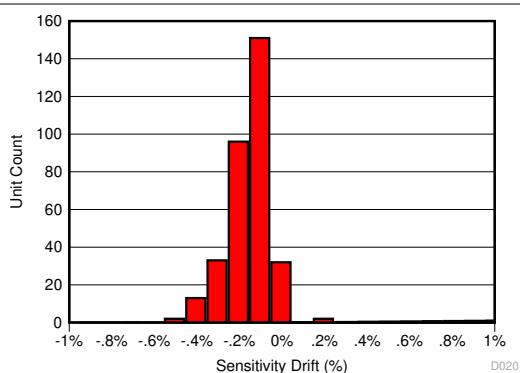
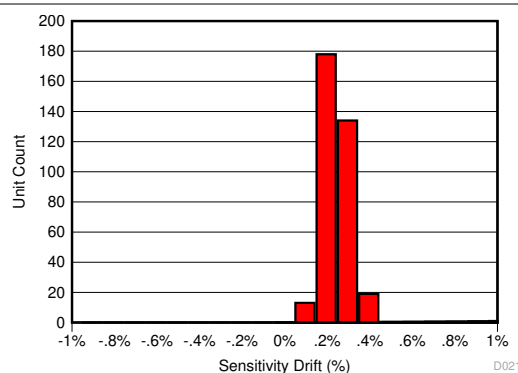

图 9-1. Sensitivity Error After 130°C, 85% RH HAST
图 9-2. Sensitivity Error Drift After AEC-Q100 High Temperature Operating Life Stress Test
The same compensation techniques utilized in the TMCS1107 to reduce temperature drift also greatly reduce lifetime drift due to aging, stress, and environmental conditions. Typical magnetic sensors suffer from up to 2% to 3% of sensitivity drift due to aging at high operating temperatures. The TMCS1107 has greatly improved lifetime drift, as defined in the Electrical Characteristics table for total sensitivity error measured after the worst-case stress test during a three lot AEC-Q100 qualification. All other stress tests prescribed by an AEC-Q100 qualification caused lower than the specified sensitivity error, and were within the bounds specified within the Electrical Characteristics table. 图 9-1 shows the total sensitivity error after the worst case stress test, a Highly Accelerated Stress Test (HAST) at 130°C and 85% relative humidity (RH), while 图 9-2 and 图 9-3 show the sensitivity and offset error drift after a 1000 hour, 125°C high temperature operating life stress test as specified by AEC-Q100. This test mimics typical device lifetime operation, and shows the likely device performance variation due to aging is vastly improved compared to typical magnetic sensors.